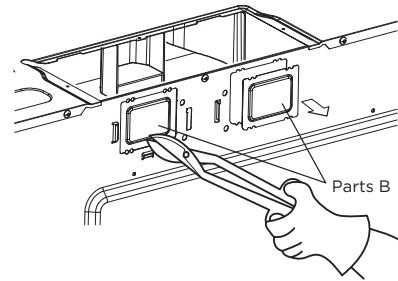

Figure 10
- Use side cutters or tin snips to cut and remove parts B from back plate. Be careful not to distort the plate. See Figure 10.